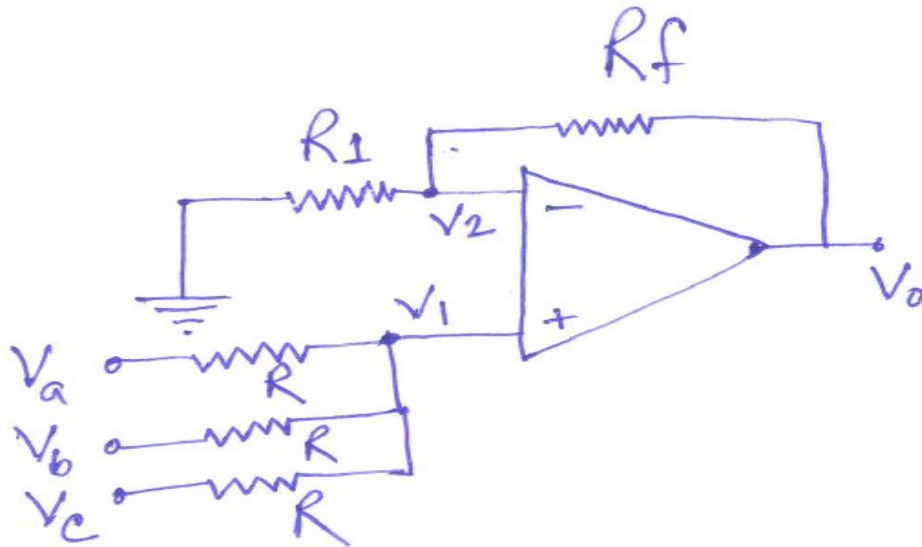

Fig.5.17 Non Inverting Summer Circuit
- The configuration as shown in following Fig.5.17 can be used as a summing amplifier